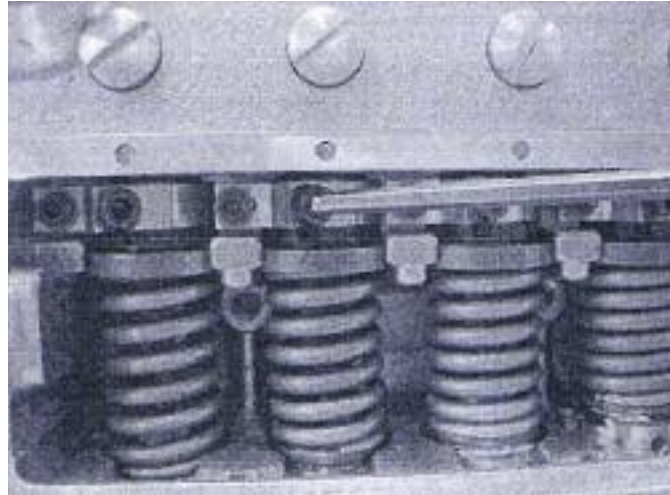

FIG. 1
2. See Figure 1. Insert a 5/64" Allen wrench into the head of the segment tension screw which holds the segment and rotate counterclockwise approximately three-quarters of a turn. This will relieve the tension applied by the segment to the control sleeve and allow the next step to be taken.